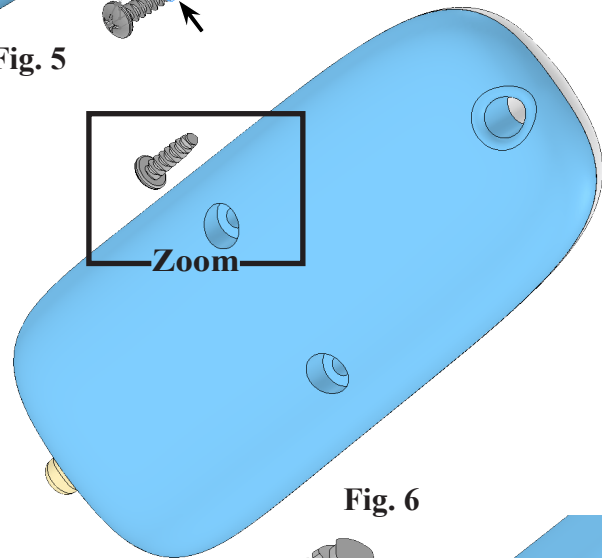

Fig. 6
Step 1. Rotate view to view **inside screw boss hole** and Screw and zoom in, **Fig. 6**.